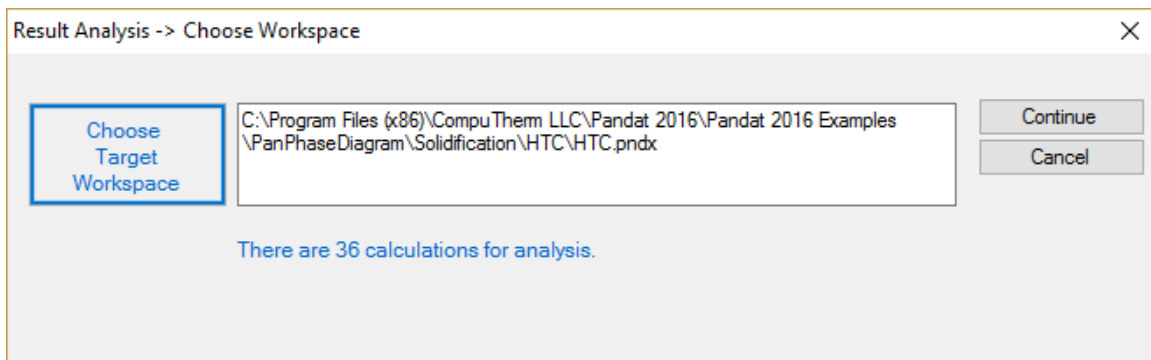

Figure 1.23.5: “Result Analysis” popup dialog to choose target workspace
- Open the workspace saved previously for “**Result Analysis**”. User can perform several HTC calculations and save all the workspaces. User can then analyze the results of the selected HTC calculation by opening the corresponding workspace as shown in Figure 1.23.5.